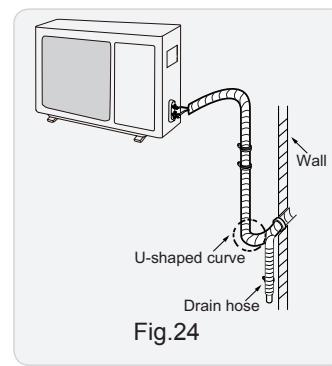

Fig.24
- If the outdoor unit is higher than the wall hole, you must set a U-shaped curve in the pipe before pipe goes into the room, in order to prevent rain from getting into the room. (As show in Fig.24)